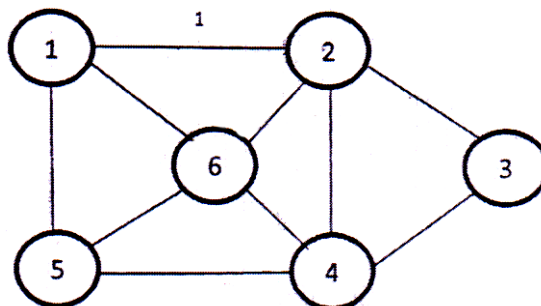

Fig. 3
- Q8) a)** Find out Minimum spanning Tree of the following graph (figure 3) using Kruskal's algorithm. [6]